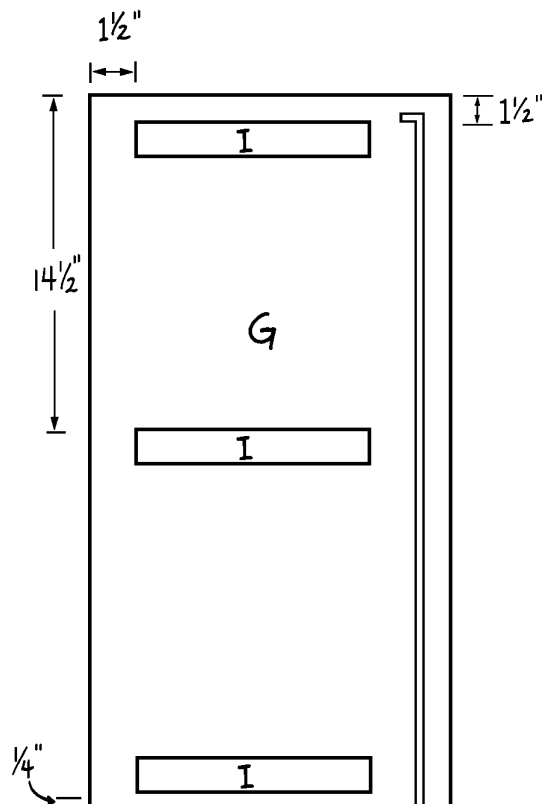

Figure 7
12. Using *Figure 7* as a placement guide, glue three of the inner supports (I) to one side (G). Position the first inner support (I) 1-1/2" from the upper end of the side (G); the second inner support (I) 14-1/2" from the same end; and the third inner support (I) 1/4" from the bottom end. Note that all three supports (I) should be 1-1/2" from the front edge of the side (G); they do not cover the dado at the back edge.
13. Repeat Step 11 to attach the remaining three inner supports (I) to the other side (G).